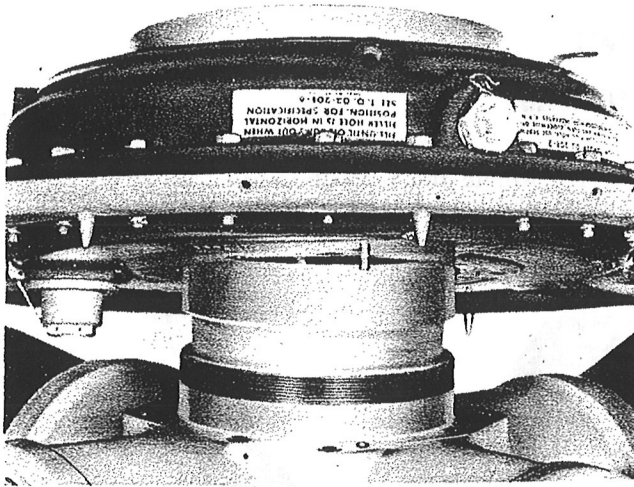

Figure 159—Installing the Regulator
(2) Remove the masking tape from the regulator transfer ports. Assemble the regulator on the propeller hub. (See figure 159.) The dowel in the regulator housing must align with the dowel hole in the hub.
(3) Apply anti-seize compound, Specification No. AN-C-53, on the nut and start the nut by hand, turning counterclockwise. *The regulator nut has a left-hand thread.* Tighten the nut with the regulator nut wrench and a 4-foot bar. Tighten to 500-600 foot-pounds torque, using hands only on the bar. Do not strike bar with hammer or mallet.
(4) Check the clearance between the regulator housing and the hub. It should not be possible to insert a .002-inch feeler at any point.